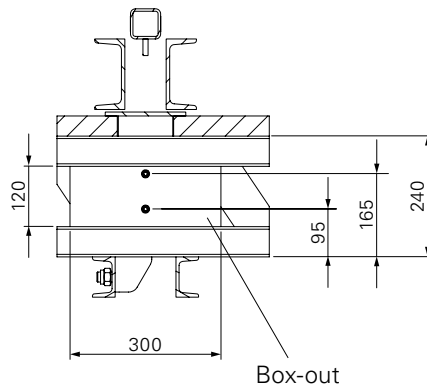

Fig. B1.10a
6. Place additional Platform Beams (36a) on the existing one and pre-drill with $\varnothing 8$ mm, laterally spaced at distance c and below with spacings of 95 and 165 mm. (Fig. B1.10a)